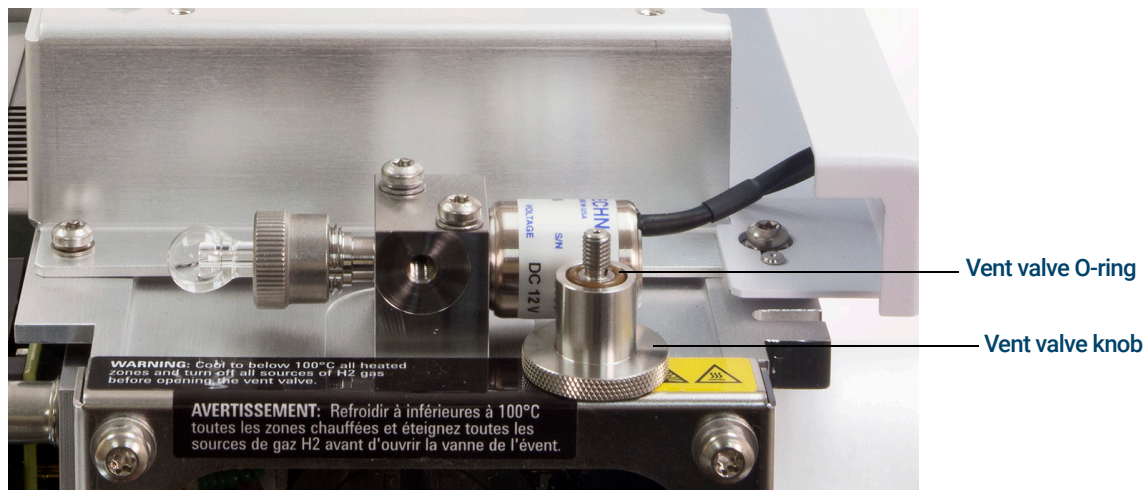

Figure 15. Vent valve O-ring
- 2 Completely remove the vent valve knob. (See **Figure 15** on page 108.)